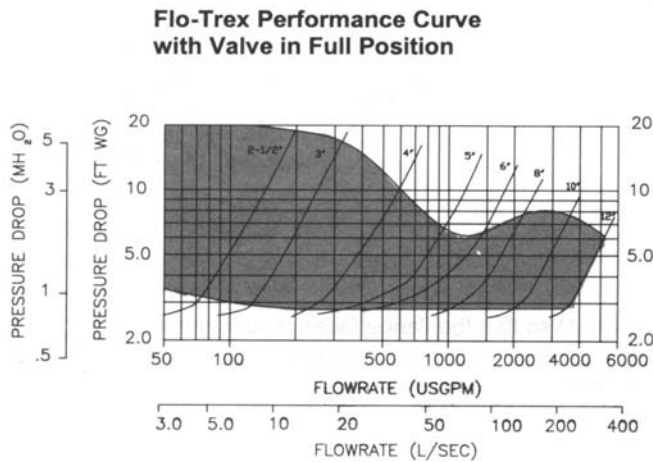

Fig. 2
6.23 Refer to Flo-Trex Performance Curves with valve in full open position (Fig 2).
6.3.4 On the Flo-Trex Performance Curve (fig. 2) locate the differential pressure obtained in Step 6.3.2 and project line horizontally across to intercept with Valve Performance Curve. Drop a line vertically down to read the flow rate at the bottom of the chart.
From the Flo-Trex Performance Curve (fig 2), a 4 inch, valve with 5.4 ft. pressure drop (1.65 m) represents a flow of 400 USgpm (25.2 l/s).